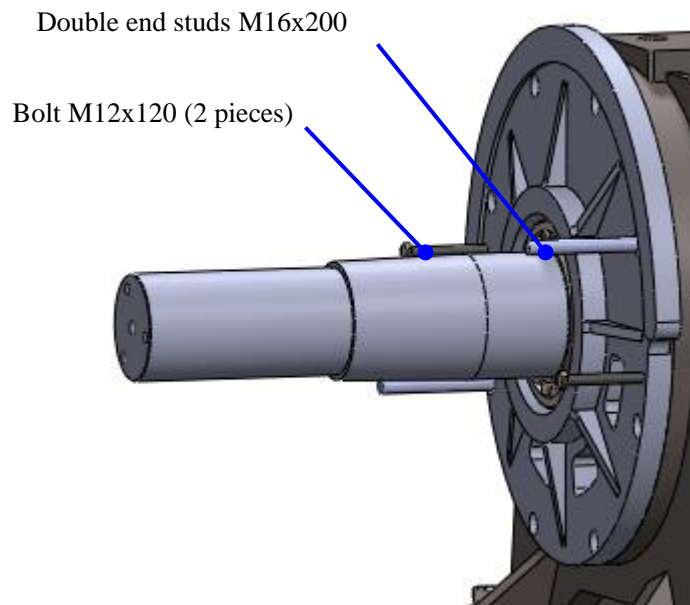

Figure 125: Install double end studs and M12 bolts
6. Use a pair of double end studs M16x200 tightened into the threaded holes in the machine body. Screw the bolts M12x120 into the M12 hole of front cover opposite each other. Tighten the bolt M12x120 (2 pieces) evenly and slowly with end wrench (18mm) until the front cover comes out of the bearing. See Figures 125 and 126.